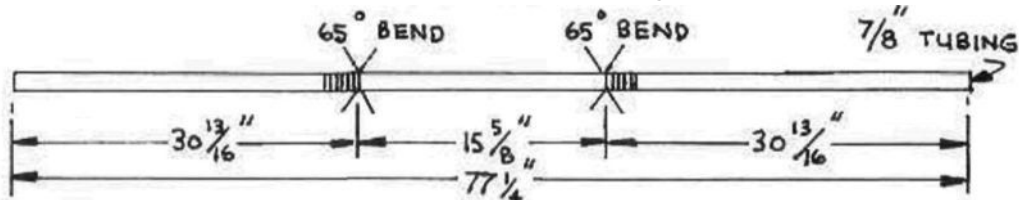

FIGURE 1
1. Lay out 2 pieces of 7/8" tubing and mark for bending as shown. Remember that the bend is in the shaded area as shown below in Figure 1.